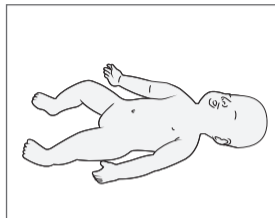

FIGURE 13: Expose chest for defibrillation
- Remove clothing and jewellery and expose the infant's chest (**Figure 13, page 41**). Cut through clothing with scissors if necessary.